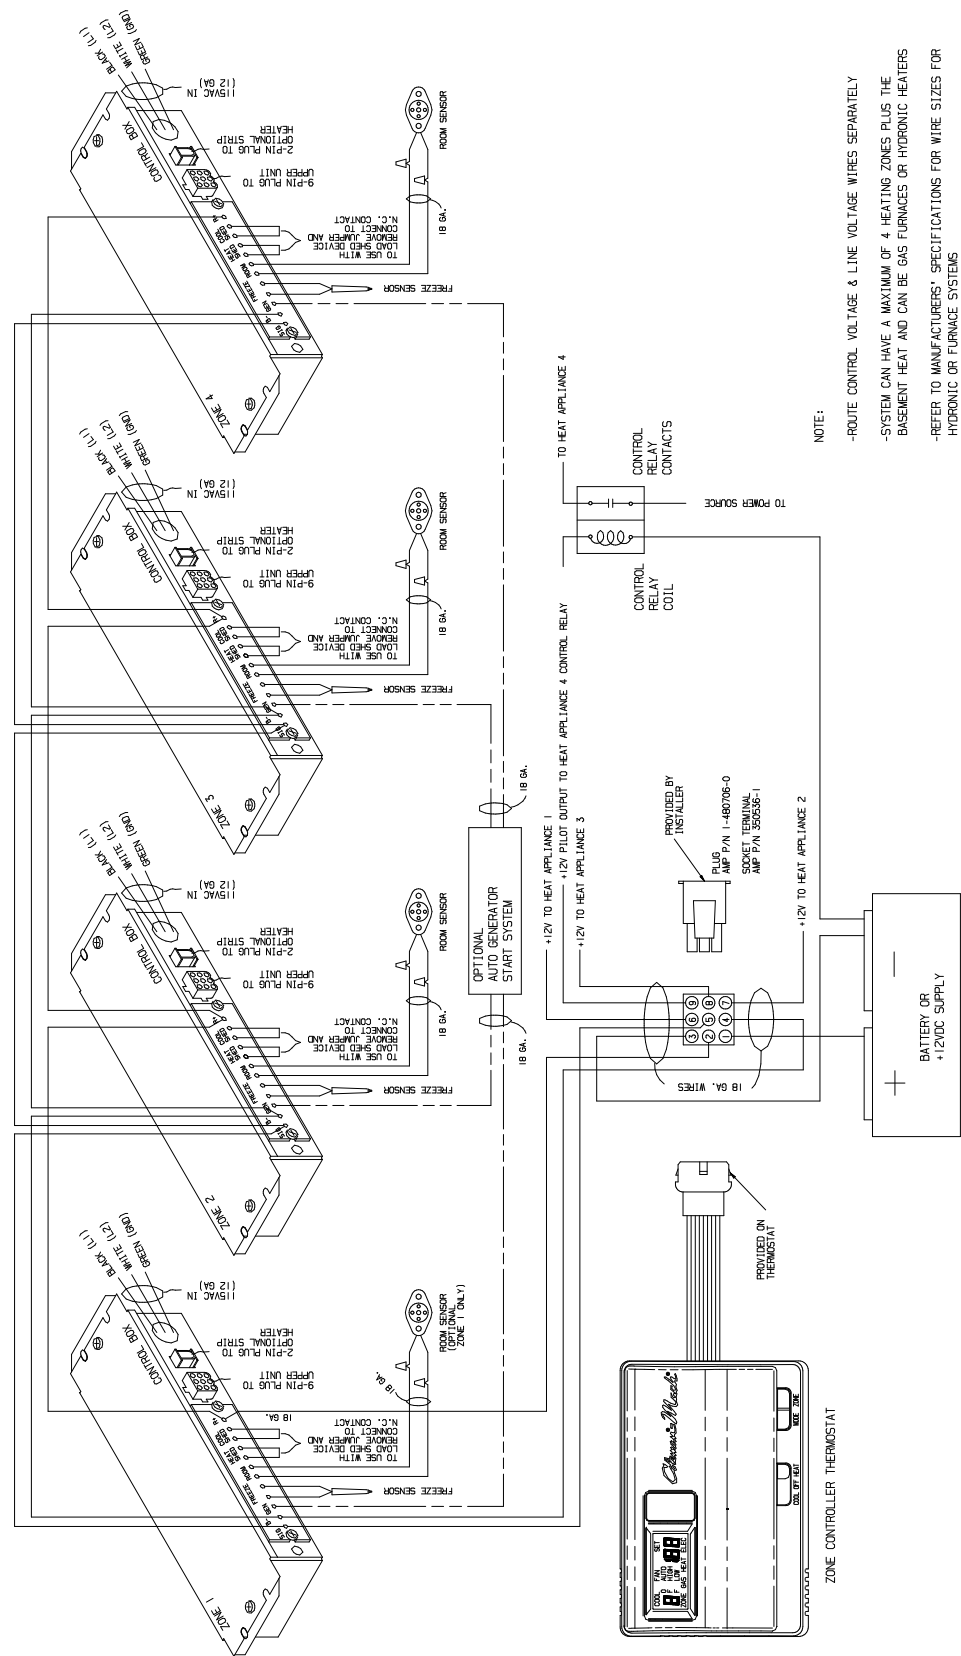

FIGURE 6
- (2) Any color for heat load shed (optional)
- B. See Figure 6 for wiring requirements for multiple zones.
Zone 2 is wired in by jumpering from SIG, B- and R+ on Zone 1 box to Zone 2 box. Zone 3 is wired in by jumpering from SIG, B- and R+ on Zone 2 box to Zone 3 box. Zone 4 is wired in by jumpering from SIG, B- and R+ on Zone 3 box to Zone 4 box (See Figure 6).